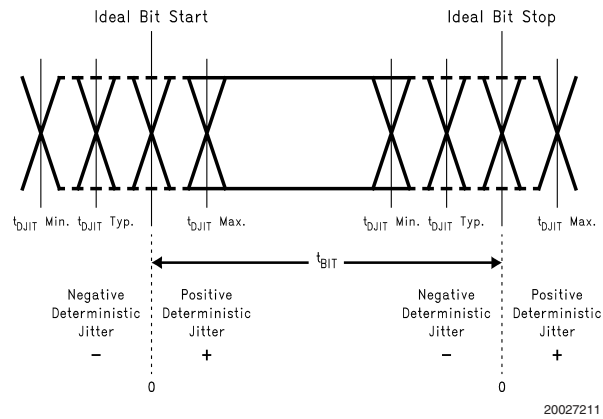

FIGURE 9. Deterministic Jitter and Ideal Bit Position
**Note 7:**  $t_{DJIT}$  specification is measured with the serializer output transmitting PRBS pattern from the internal BIST mode. It is a measurement of the center distribution of 0V (differential) crossing in comparison with the ideal bit position. See *Figure 9*